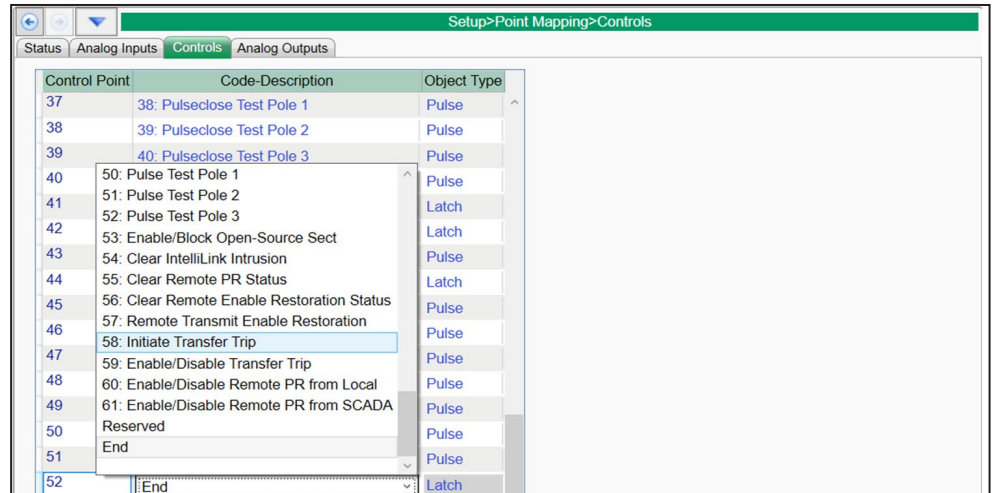

Figure 3. Mapping the Initiate Transfer Trip DNP control point.
- STEP 2.** Go to *Setup>Point Mapping>Controls* screen and configure the **Initiate Transfer Trip** DNP control point. The **Control Point** and **Object Type** settings must match those configured in the Remote Transfer Trip List table of the sending device. Otherwise, the sending device will never receive a response and the transfer will never complete. See Figure 3 on page 9.